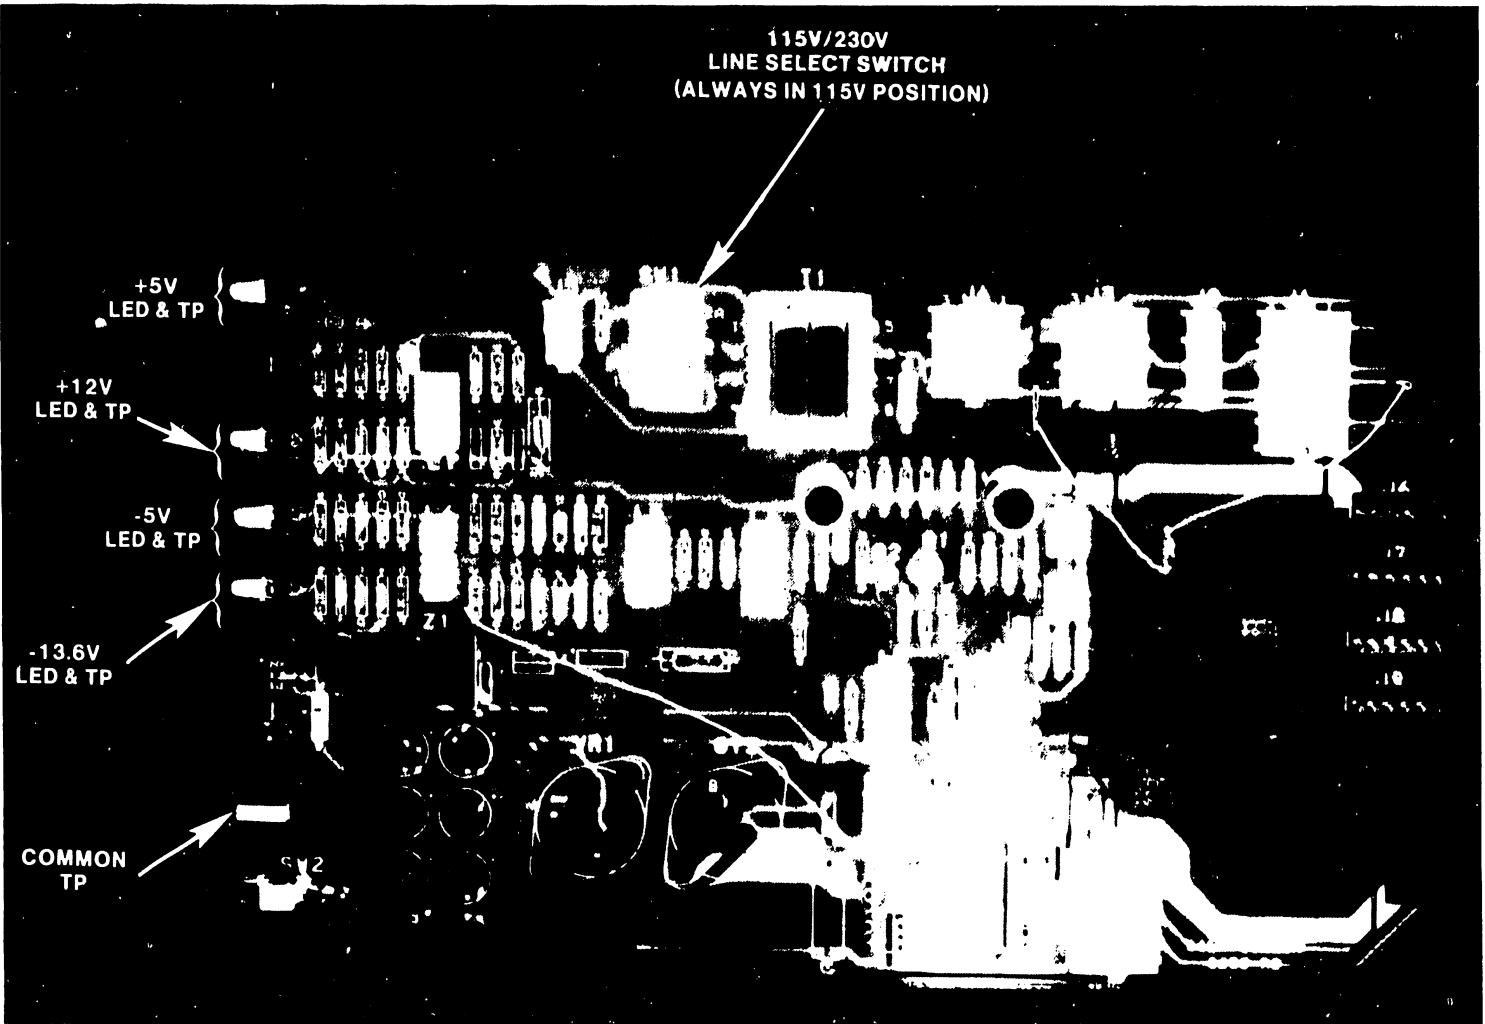
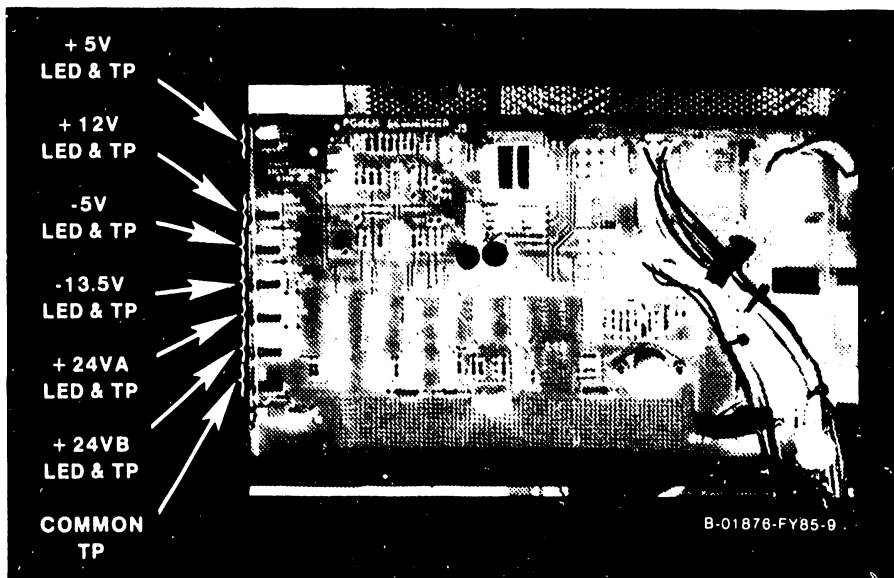

Figure 4-8A. 210-8250 VS-85 Power Controller Board
Figure 4-8B. 210-8198 VS-85-H Power Sequencer Board
- 1. The following voltages should be checked at the 8250 Power Controller board (figure 4-8A) and at the 8198 Power Sequencer board (figure 4-8B) test points.